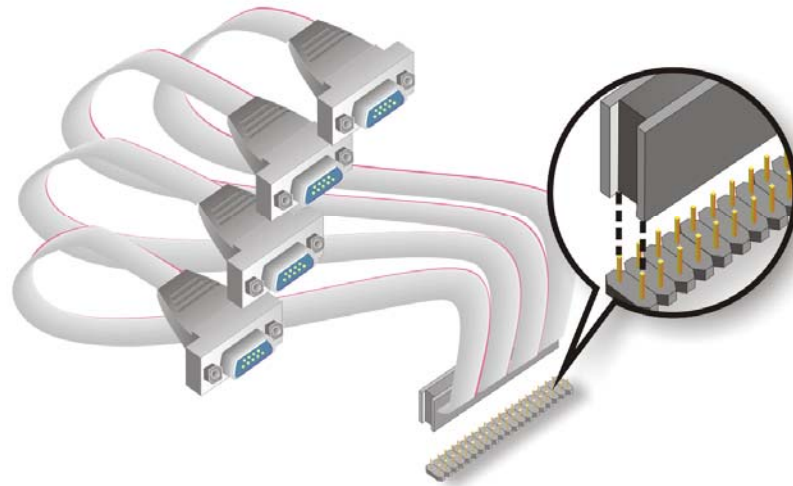

Figure 4-11: Four Serial Port Connector Cable Connection
- Step 2: Align the connectors.** Correctly align pin 1 on the cable connector with pin 1 on the WAFER-945GSE 40-pin serial port connector. See **Figure 4-11**.
- Step 3: Insert the cable connectors** Once the cable connector is properly aligned with the 40-pin serial port connector on the WAFER-945GSE, connect the cable connector to the on-board connectors. See **Figure 4-11**.